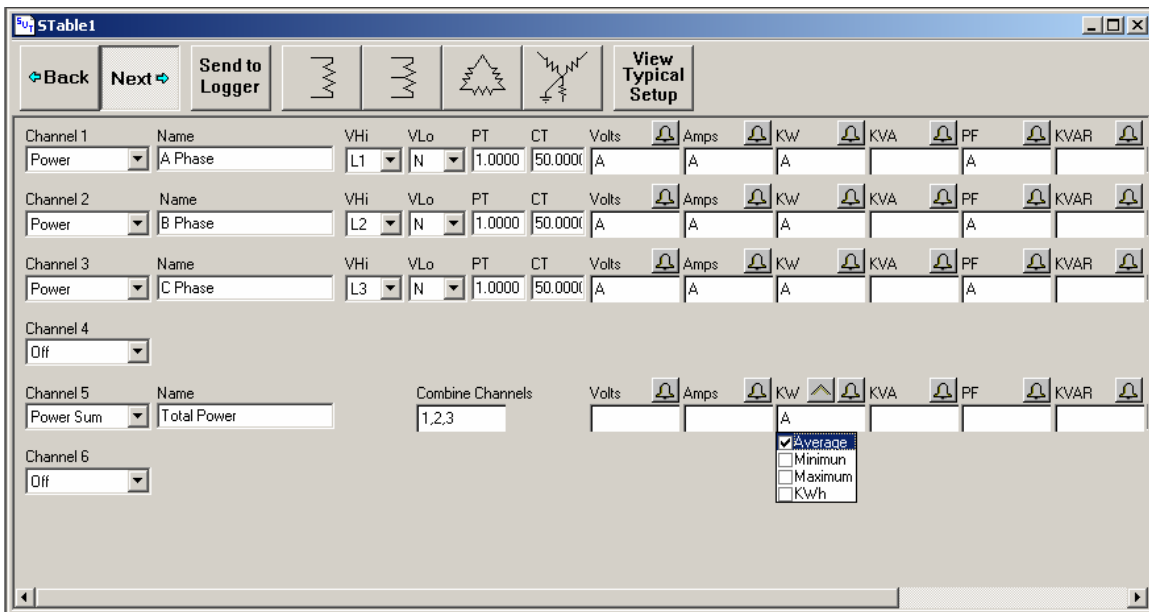

Figure 4 The second logger setup window; the channel setup window. This setup is for a 3-phase 4-wire supply. 50 amp CTs are being used.
12. Custom configurations can also be entered. Channels 1 through 4 are measurement channels for measuring volts, amps, power (kW), kilovolt-amps (KVA), power factor (PF) and kilovolt-amps-reactive (KVAR). Channels 5 and 6 are calculated channels used for combining measured data from two or more of the first four channels. The drop down arrow in the Channel box is used for enabling and disabling channels.
13. In figure 4 the 3-phase 4-wire (Wye) button was pressed.  This option turns on 3 measurement channels (channels 1, 2 and 3) and one calculated channel (channel 5). *Note it is recommended that the 3-phase 4-wire setup be used with all 3-phase loads, including delta loads. When there is no neutral, connect the neutral (white) voltage clip to good ground.
14. Enter the phase names for each channel. (figure 4) For example; A Phase, B Phase, C Phase and Total Power for a 3 phase 4 –wire load or A Phase only if monitoring a single phase 2-wire load.
15. Select the variables (volts, amps, kW, KVA, PF, kVAR) and the values (Average, Minimum, Maximum, kWh) to be recorded by clicking in the field under each variable name and checking the appropriate box. (figure 4) Average volts, amps and power factor have been selected in the setup table in figure 4.